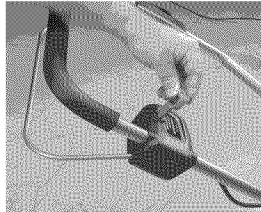

Figure 25 - Insert Key
2. Insert key into key slot and press into slot (see Figure 25). *Note:* The key can be inserted either way into key slot.